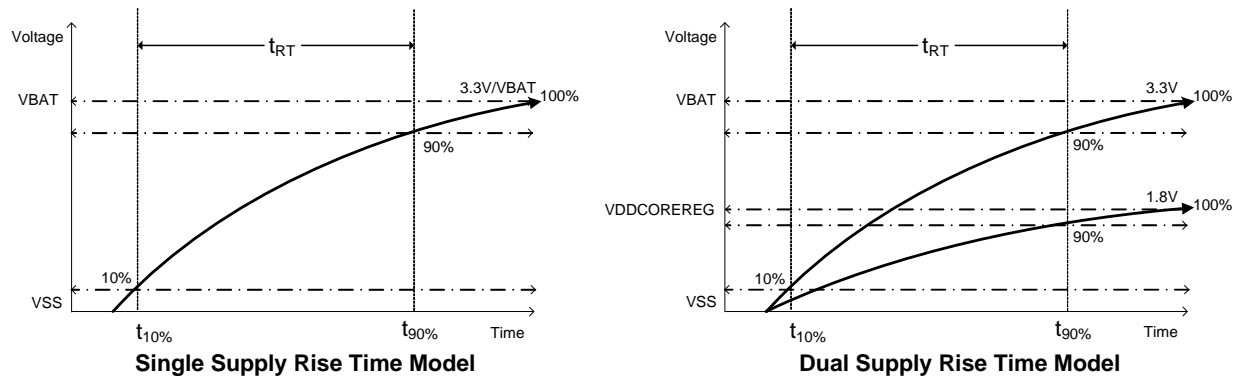

Figure 9.1 Single/Dual Supply Rise Time Models
**Note 9.6** The power supply rise time requirements vary dependent on the usage of the external reset (RESET\_N). If RESET\_N is asserted at power-on, the power supply rise time must be 10mS or less ( $t_{RT(max)} = 10mS$ ). If RESET\_N is not used at power-on (tied high), the power supply rise time must be 1mS or less ( $t_{RT(max)} = 1mS$ ). Higher voltage supplies must always be at an equal or higher voltage than lower voltage supplies. Figure 9.1 illustrates the supply rise time requirements.